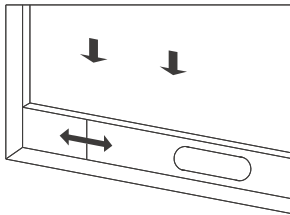
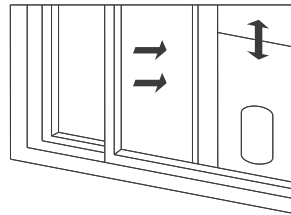

Figure 2
Figure 3
- 1) Half open the window and mount the window sealing plate assembly to the window (as shown in Fig. 2 and Fig. 3) . components can be placed in horizontal and vertical direction.